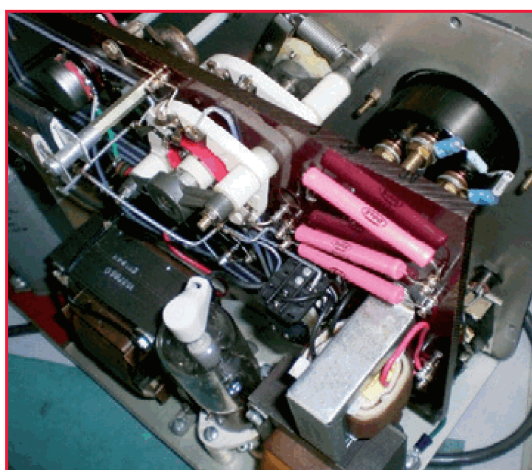

Figure 3.
**Figure 3** shows the internal construction of the 60B4 Insulation Tester. The 3B24WB high-voltage rectifier tube is mounted between the three fixed transformers. The two large transformers were custom-built by Thordarson for Bendix. The smaller 5-volt transformer is a standard (now called COTS, for 'commercial-off-the-shelf') unit. All the other components are mounted on a thick piece of Micarta insulating material. The Dale power resistors on the right are R11-R15 step-down resistors for the M1 voltmeter, which is directly in front on the aluminum face plate. K1 relay is located below these resistors, next to the small transformer.